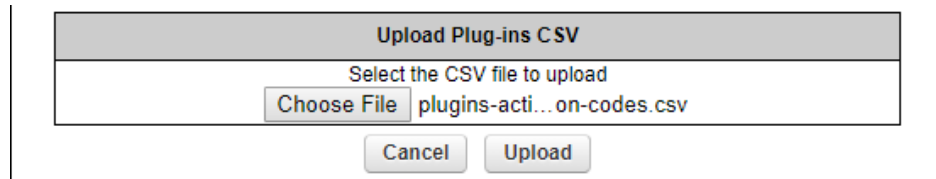

Figure 73. MANAGE PLUG-INS DIALOG (Upload Plug-ins CSV section)
7. Upload the *.CSV file to the unit by clicking the **Choose File** button in the **Upload Plug-ins CSV** section (Figure 73 (page 160)) and following the software prompts.